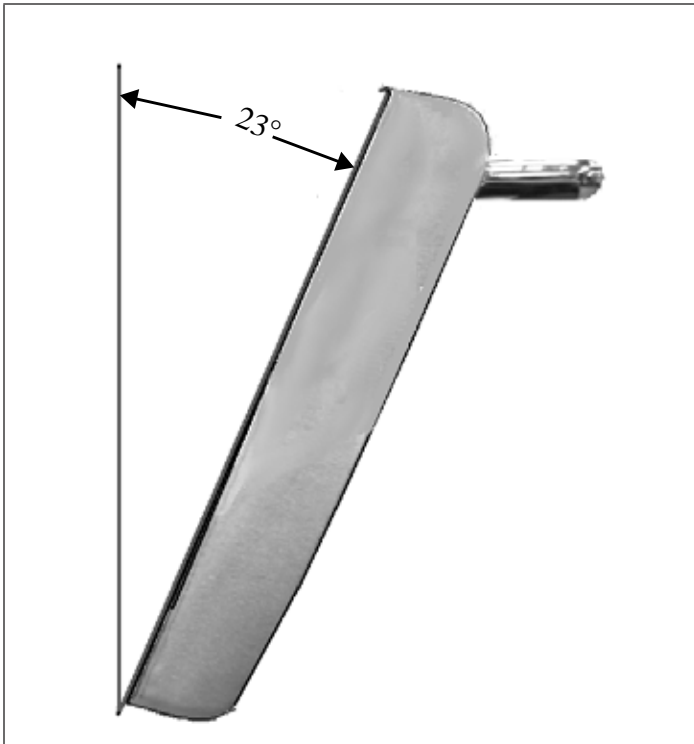

Figure 7: Approximate Door Angle for Removal
1. Position the door at a sharp angle (see Figure 7) and insert the hinges centered evenly into the hinge slots. The hinges will securely hook into the slots when properly installed. Do not force, bend, or twist the door.